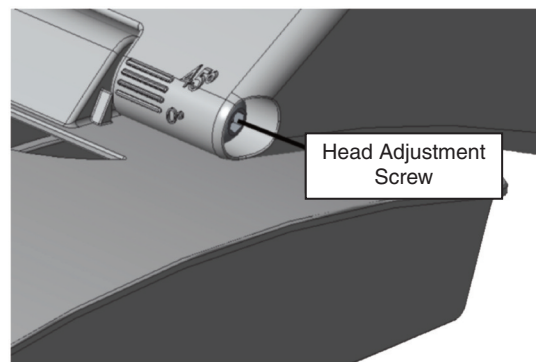

Fig. 2
2. Loosen the adjustment screws (**Figure 2**) on the side of the fixture.